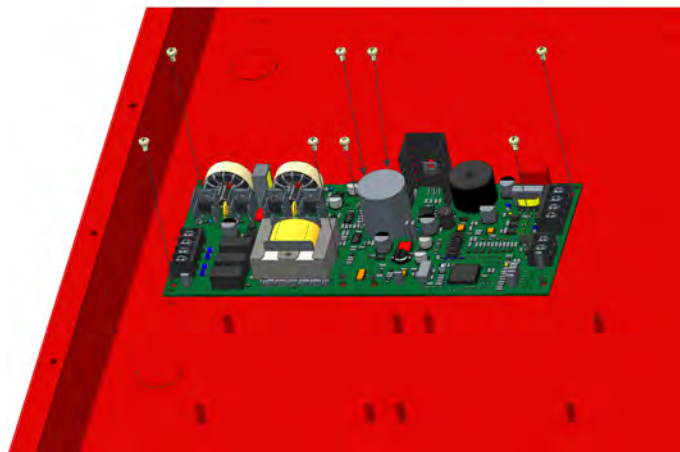

Figure 4.22 TR-INT50W in FACP Cabinet
2. To mount the TR-INT50W inside the FACP cabinet under the main board, align the board with the mounting holes. Secure the board to the enclosure with the supplied screws. See Figure 4.22.